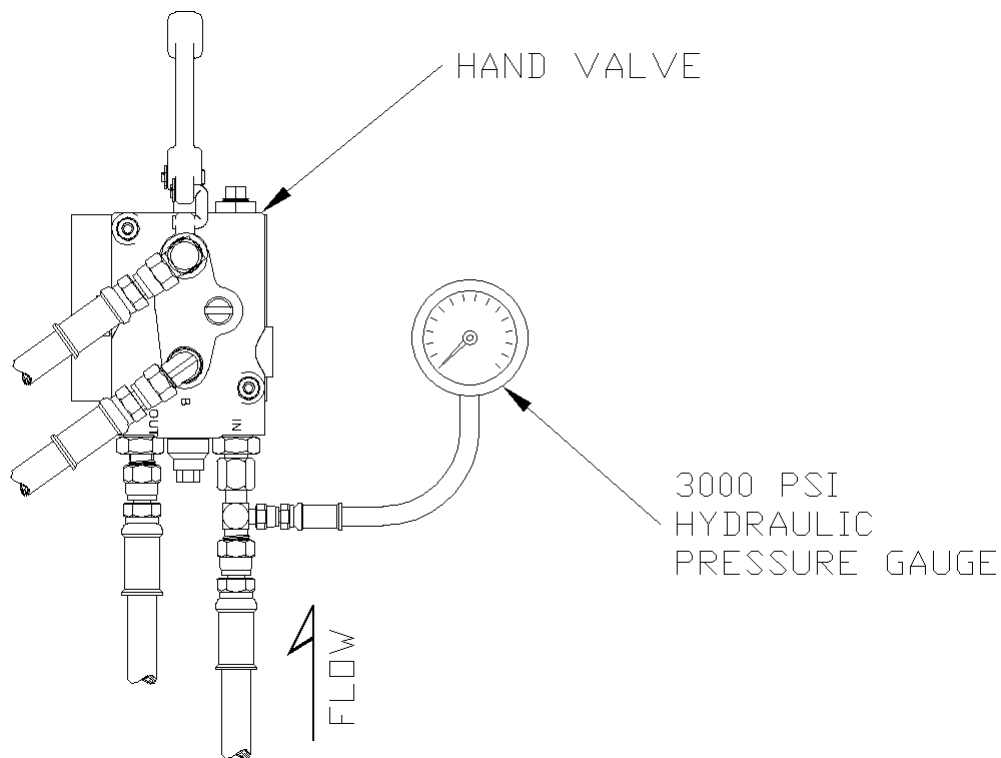

**Figure I-4**
*The diverter valve ( 1 ) ( figure I-4 ) supplies the cart lifter hydraulic system with approximately 2 GPM of oil flow. This diverter valve is equipped with a full system relief valve ( 4 ) set at 2500 psi, to protect the truck's hydraulic system from any blockages that may occur down stream of the diverter valve. The diverter valve also includes a lifter circuit relief valve ( 3 ) set at 2300 psi, to prevent the diverter valve from shutting down if a blockage occurs in the lifter circuit. There is also a relief valve ( 5 ) set at 1800 psi in the hand valve ( 2 ) to protect the lifter from excessive pressure. These relief valves are preset from the factory to operate properly on most trucks with a system pressure between 2300 and 2500 psi without any adjustment. However, if any adjustment is necessary, follow these instructions.*
2. Remove the cap nut(s) ( 8 ) (*figure I-4*) from the hand valve relief valve(s) ( 5 ) and turn the adjustment screw(s) clockwise until it bottoms out.
3. Loosen the lock nut ( 6 ) (*figure I-4*) on the lifter circuit relief valve ( 3 ) and turn the adjustment screw clockwise until it bottoms out.
4. Loosen the lock nut ( 7 ) (*figure I-4*) on the full system relief valve ( 4 ) and turn the adjustment screw counter-clockwise until it stops backing out.
7. Operate the handle on the hand valve ( 2 ) (*figure I-4*) back and forth a few times to bleed all air from the lifter hydraulic system.
- a) Have an assistant hold the handle on the hand valve ( 2 ) (*figure I-4*) in the "retract" position. *If installing dual lifters hold the handle down on only one of the hand valves.*
- a) Have an assistant hold the handle on the hand valve ( 2 ) ( *figure I-4* ) ( *with pressure gauge installed at the "IN" port* ) in the "retract" position to show pressure on the gauge.
- a) Hold the handle on the hand valve ( 2 ) (*figure I-4*) ( *with pressure gauge installed at the “IN” port* ) in the “retract” position to show pressure on the gauge.
15. Reinstall the cap nut(s) ( 8 ) (*figure I-4*) on the hand valve relief valve(s) ( 5 ) to secure the correct pressure setting(s).
16. Tighten the lock nut ( 7 ) (*figure I-4*) on the full system relief valve ( 4 ) to secure the correct pressure setting.
17. Tighten the lock nut ( 6 ) (*figure I-4*) on the lifter circuit relief valve ( 3 ) to secure the correct pressure setting.